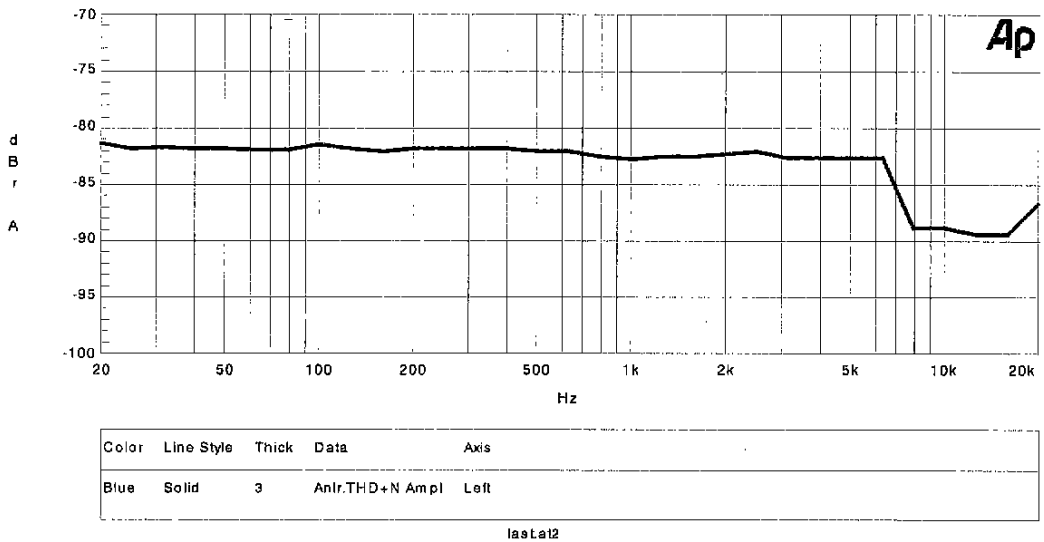

Fig2 : THD+N vs. Input Frequency
② THD+N vs. Input Frequency (Fig2)